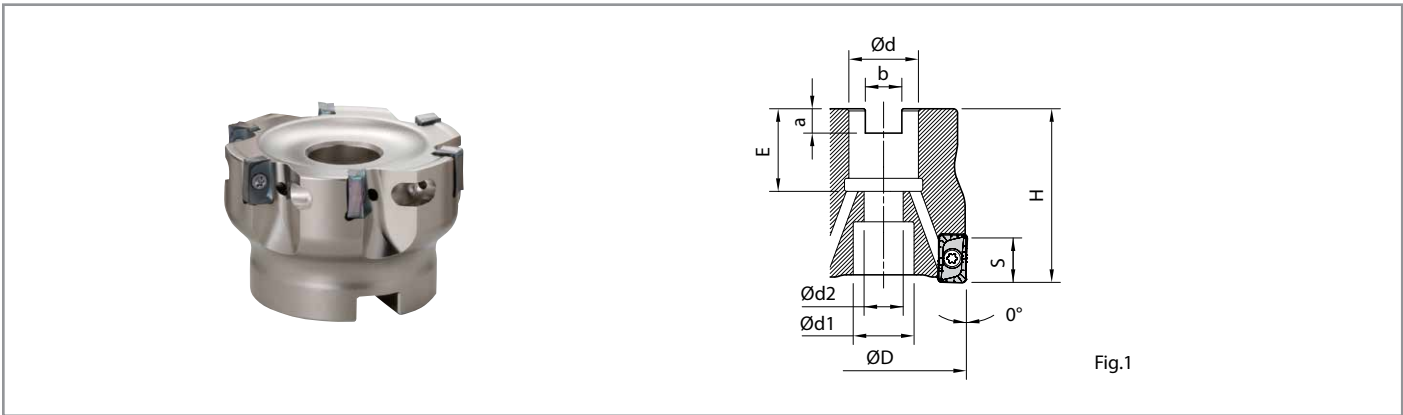

Fig.1
- 1) See Fig. 1 for "Torx Plus" Wrench. (Purple Grip)